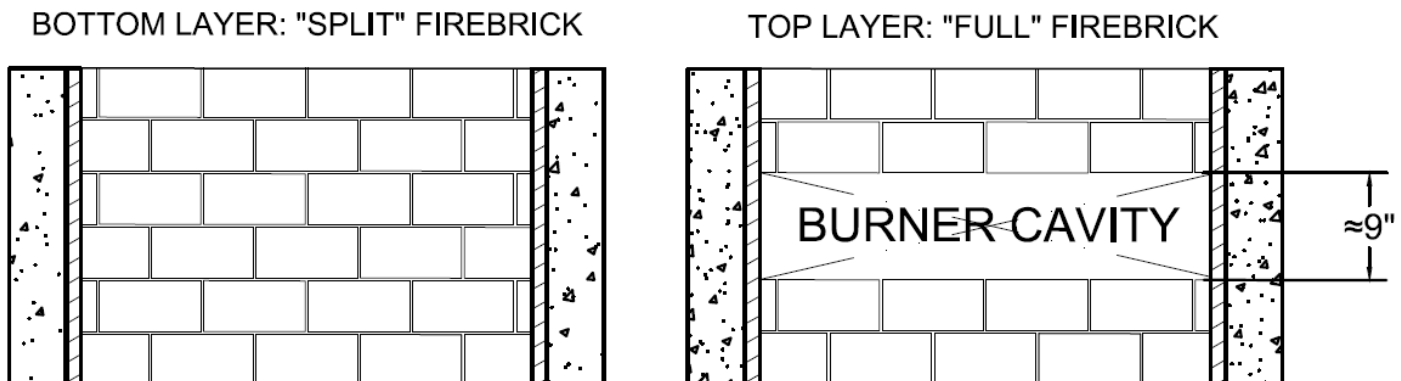

FIGURE 4
- 2) The ISOFLAMES XL Linear Burner must be installed on top of minimum 1-1/4" "split" firebrick. (**Figure 4 & 5**)
- 4) The burner cavity must have a height of 2-1/2", a depth of approximately 9", and the length shall extend the entire length of firebox. (**Table 5; Figure 4 & 5**)